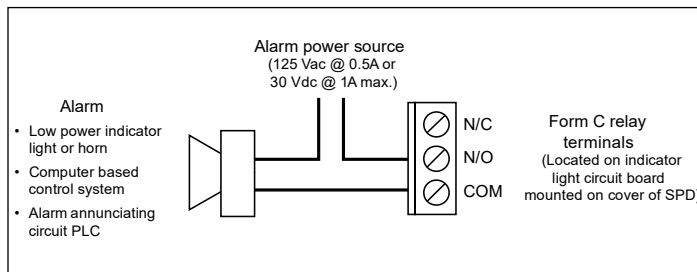

Figure 11. Typical alarm wiring
- In the example shown in **Figure 11**, the Form C relay will de-energize if one of the phase voltages loses protection, causing the alarm to activate.